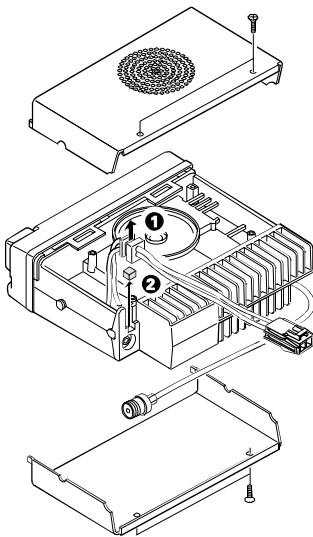

Fig. 1
1. Remove the upper and lower halves of the transceiver case, and lift the DC cord bushing (❶) from the chassis.
2. Remove the pad as shown in Figure 1 (❷).
3. Insert the KCT-19 cable (❸) into the chassis (❹).